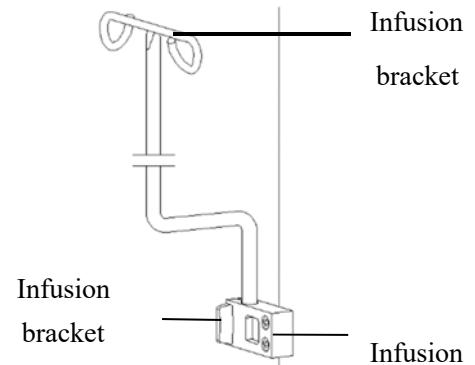

Figure 4-7 Infusion Bracket
- 5) Mount Infusion bracket in accordance with Figure 4-7.